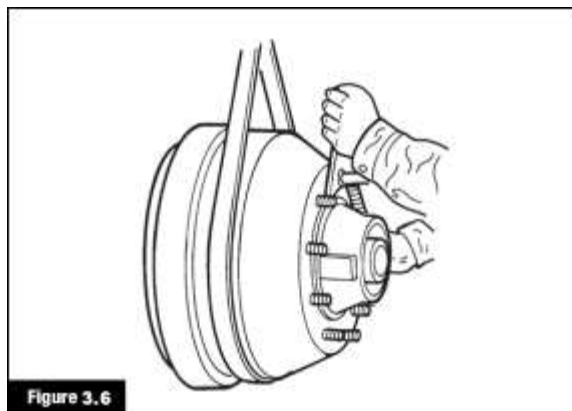

Figure 3.6
- Remove the T-Bolt from the Spindle lock nut. Then remove the jam nut, lock washer and adjusting nut. Figure 3.6